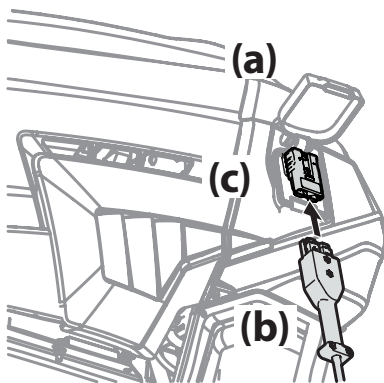
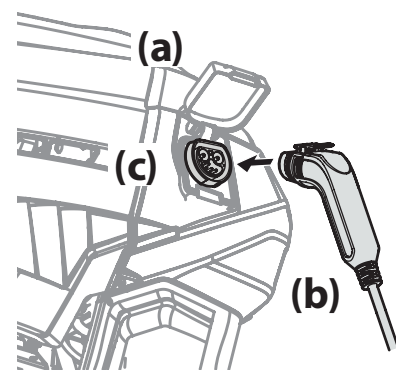

Figure 13
Figure 14
- Lift the charging port cover (a). See Figure 13 for Style 1 and Figure 14 for Style 2.
- Insert the charging cord (b) into the charging port (c). See Figure 13 for Style 1 and Figure 14 for Style 2.